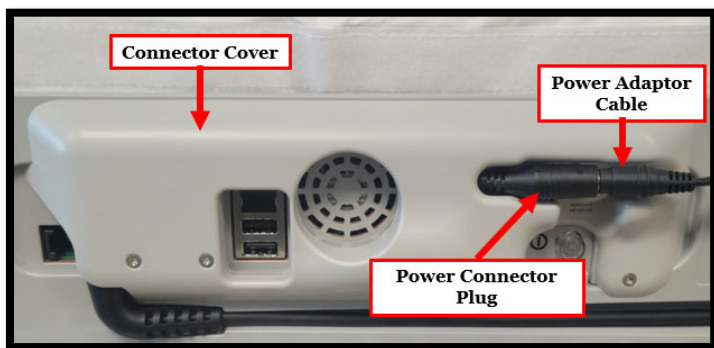
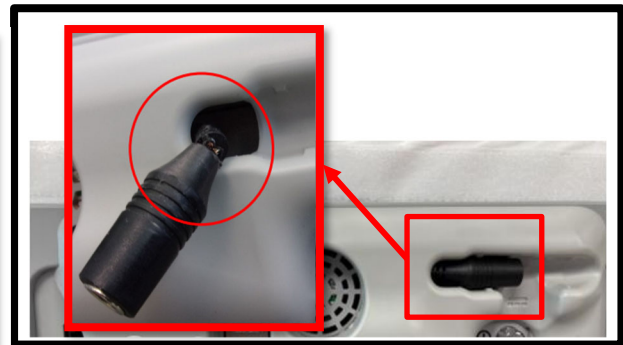

Figure 1: Back of PES
Figure 2: Example of Damage vs Acceptable Plug
Abbott has identified that the power connector plug can be damaged if bent beyond 90 degrees. The power connector plug is attached to the back of the PES and housed within the connector cover. Damage can lead to the PES not powering on, exposed wires which can lead to mild shock, or in rare cases, sparking which can lead to fire in surrounding materials and potential for burns. See **Figure 1** for the overview of the back of the PES and **Figure 2** below for an example of damage on the power connector plug.
- c. After inspecting the power connector plug or when inserting the power adapter cable into the power connector plug, ensure that the connected cables are securely placed within the molded groove of the connector cover as shown in Figure 1. Once the cables are connected and securely placed within the molded grooves, do not remove the cables from the molded grooves during use.